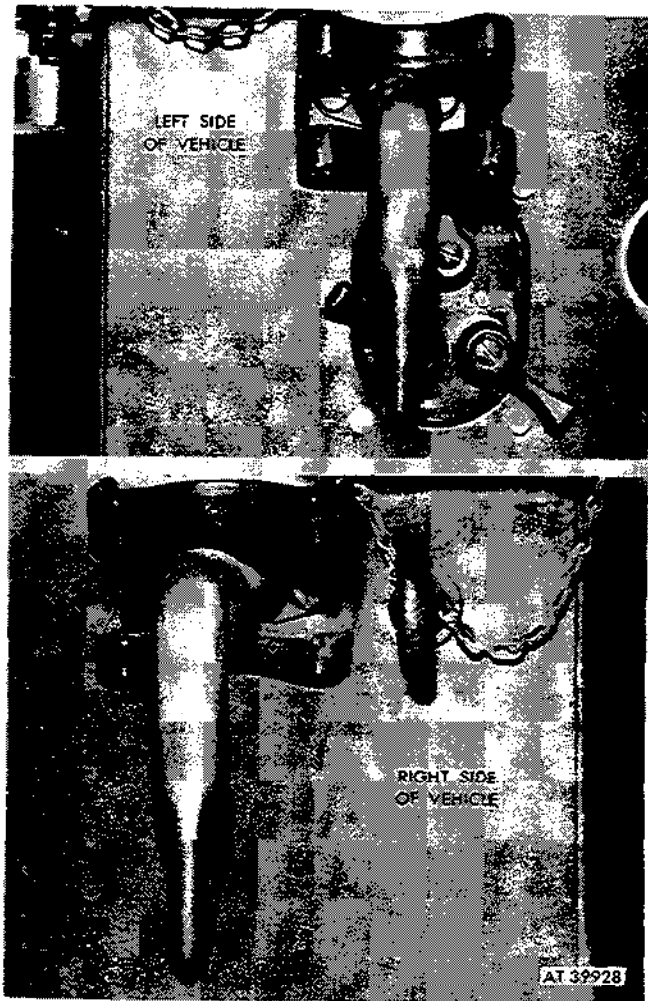
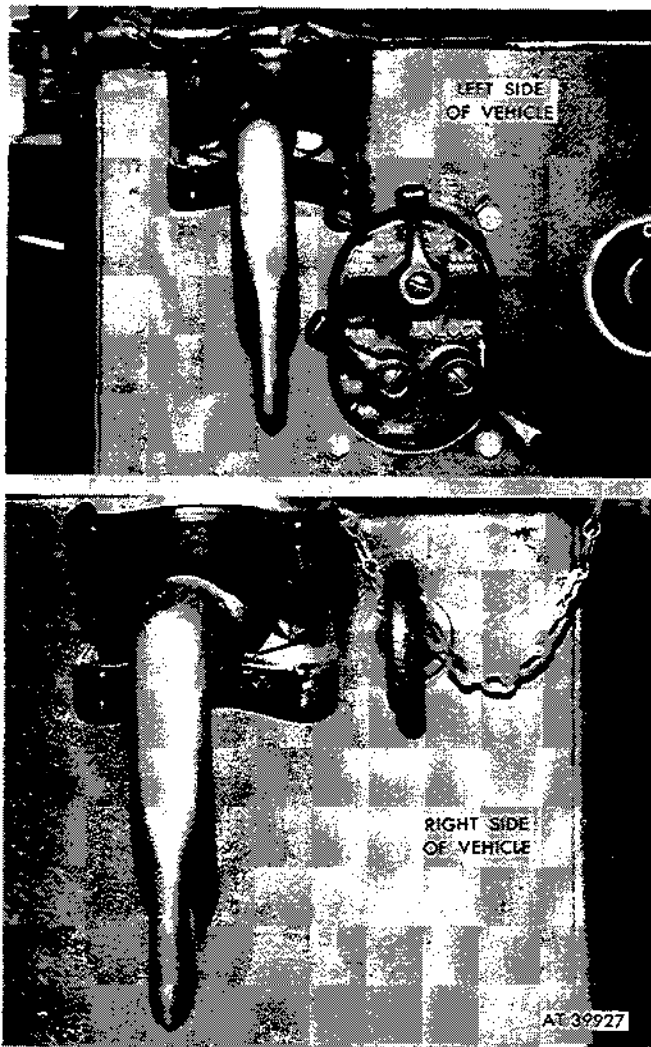

Figure 3-33. M16 / 14 rifle mount kit—installed, left and right side (softtop vehicles).
Figure 3-34. M16 / 14 rifle mount kit—installed, left and right side (hardtop vehicle).
a. The M16 / 14 rifle mount kit consists of a reinforcement plate, bracket mounting catch assembly, catch, and a floor mounting support assembly. With this kit installed, the vehicle provides a readily accessible location for storage of the M16 and M14 rifle. Refer to figures 3-33 and 3-34.
left and right side as indicated in figure 3-33. Due to door channel installation on vehicles equipped with hardtop kit, the rifle kit is located as indicated by figure 3-34. Where location of mounting holes necessitates different instructions, these instructions will refer to illustrations indicating the different locations.